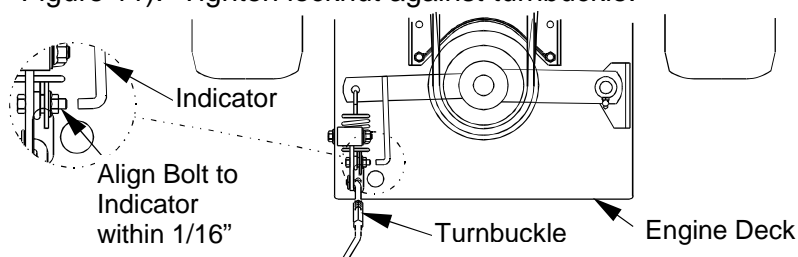

FIGURE 11
- b) With PTO engaged, adjust the linkage length by loosening the locknut on the turnbuckle and adjusting the turnbuckle so that the bolt on the bellcrank and the indicator arm align with each other within 1/16" (.16 cm) (See Figure 11). Tighten locknut against turnbuckle.